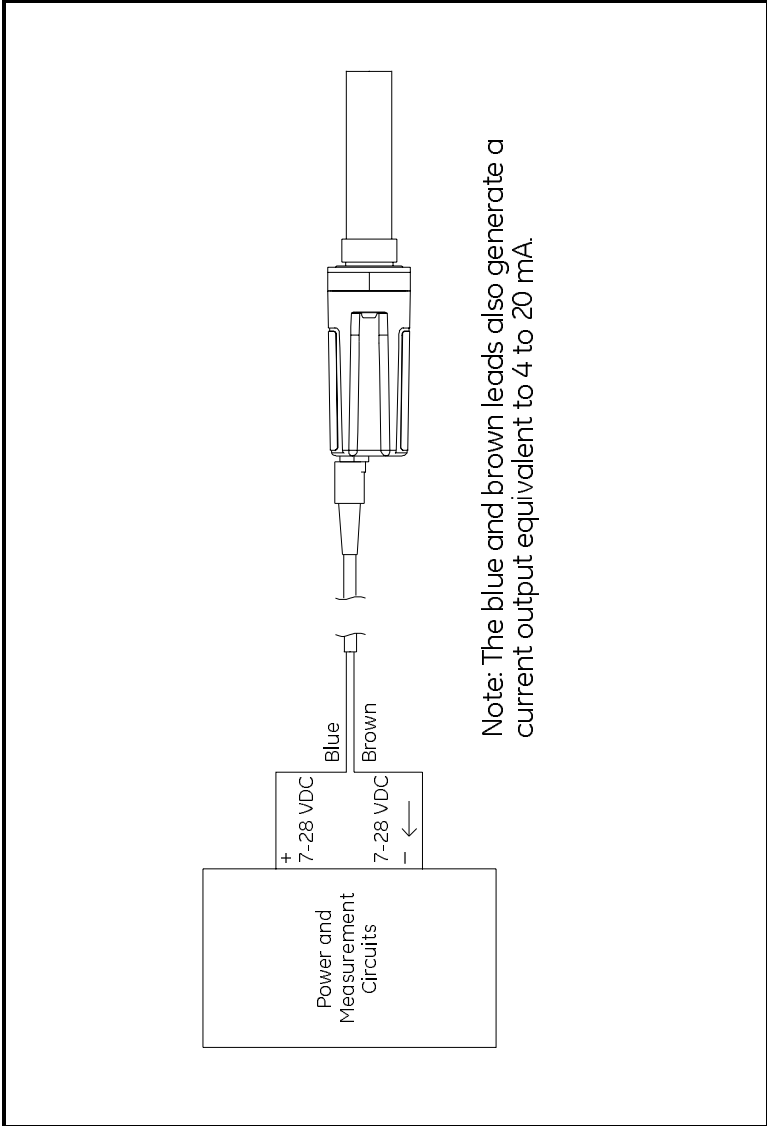

Figure 2: Wiring Connections
2. Using the flying leads at the other end of the transmitter cable, connect the transmitter to your power supply and data acquisition system (DAS) as shown in Figure 2 on the next page. Refer to Table 1 below for a description of the leads in the factory-supplied cable.